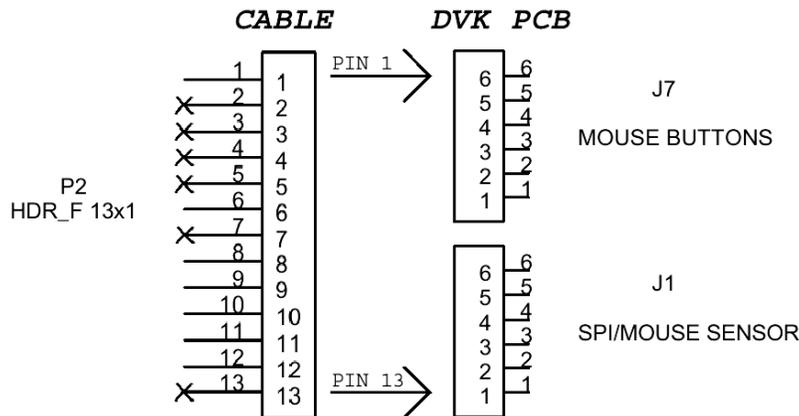

Figure 7. PS2 Interface Cable Connection Diagram
3. Connect the other end of PS2 interface Cable to Platform Board, bridging connectors J1 and J7. Pin1 of the cable must be connected to Pin6 of header J7 as shown in Figure 7.